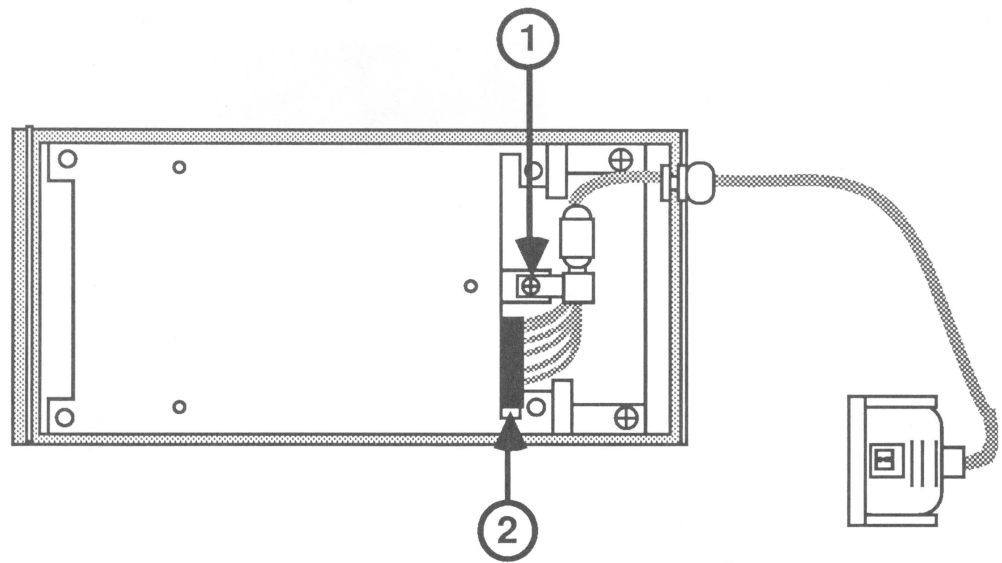

FIGURE 2
3. Remove the screw from the clamp holding the interface cable in place (see Figure 2, #1).
4. Disconnect the interface cable from the drive (see Figure 2, #2).